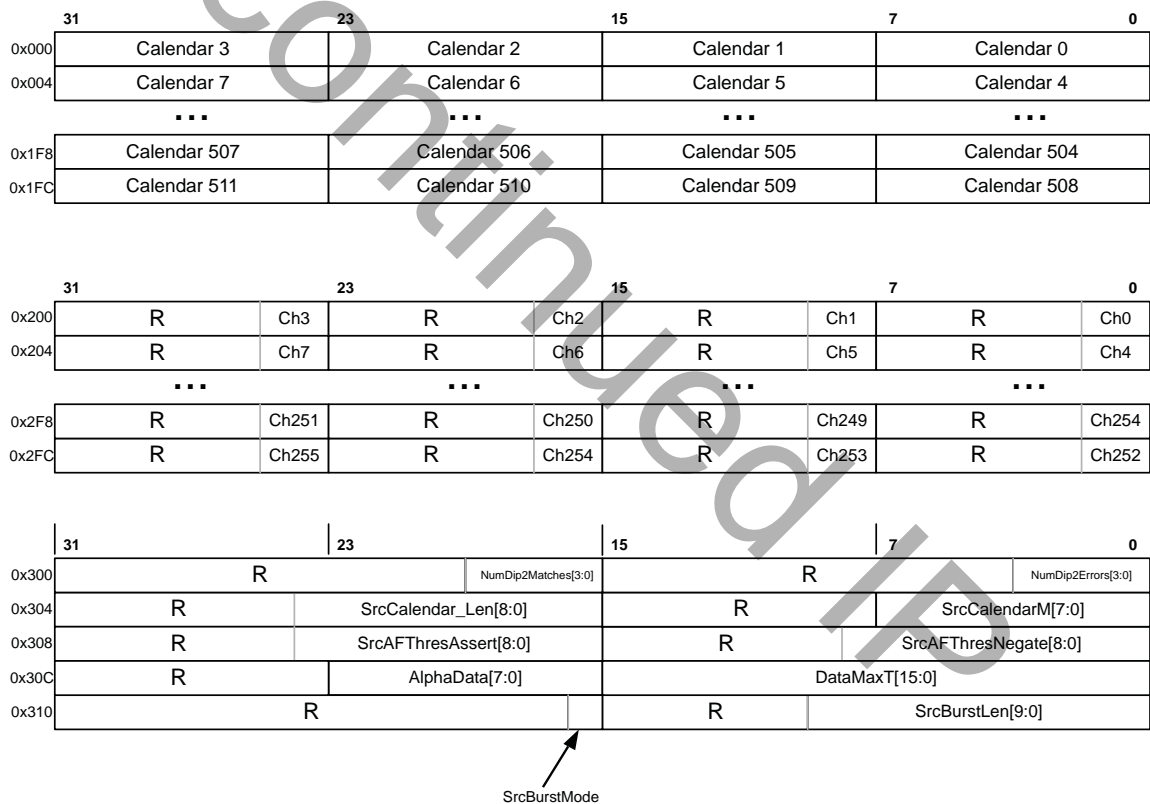

Figure 5: Source AXI4-Lite Memory Space
The Source AXI4-Lite Control interface is used to program the calendar memory, read status memory, and program static configuration memory. This memory space is defined in Figure 5.
- **Transparent Mode** (AXI4-Stream Status Interface): In this mode, the Status information is provided real-time as it is received on TStat and is not stored within the core. This means the status memory space is defined in Figure 5 is not usable ("Reserved") in this mode and reads to it will return all zeroes.